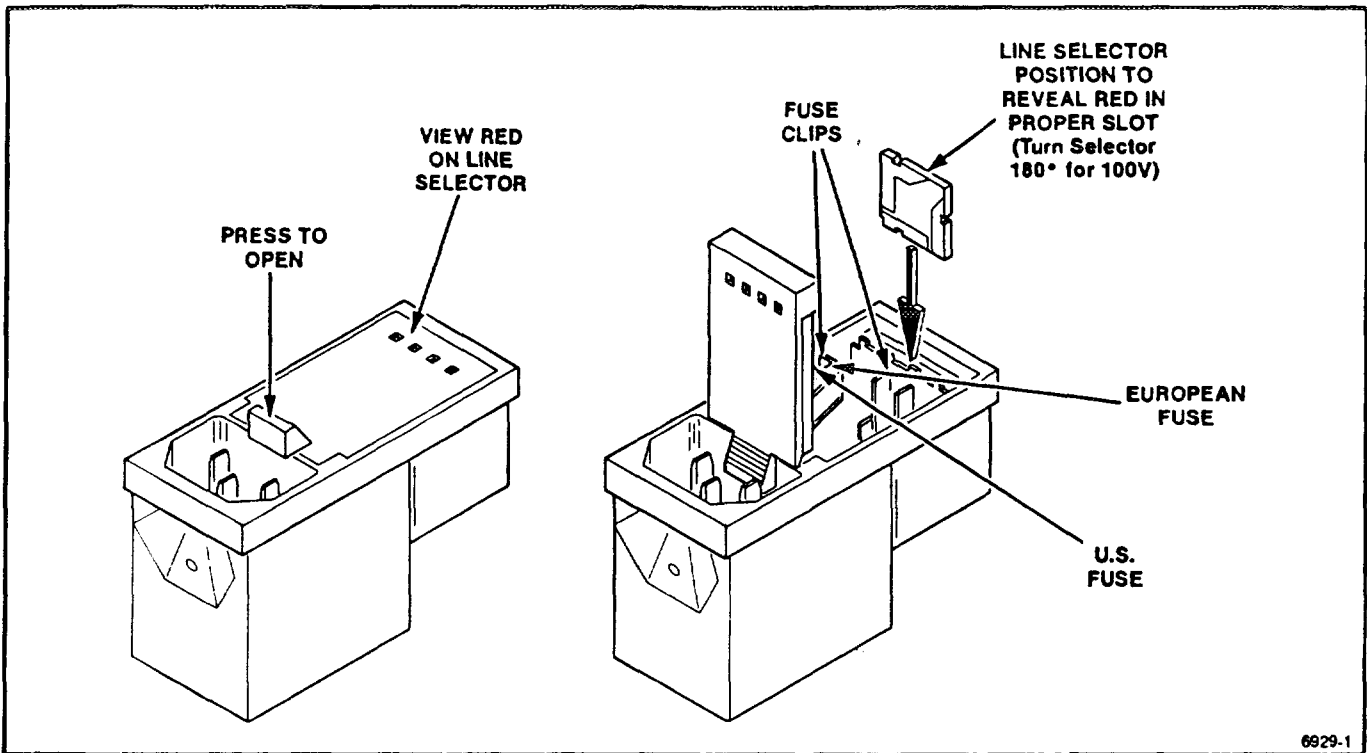

Fig. 2-1. Line Voltage Selection and Main Fuse Replacement.
2. See Fig. 2-1. To check or replace the Main Power Fuse, press downward on the tab located on the Line Voltage Selector just above the power cord receptacle. The door will open, and the fuse can be inspected or replaced.
If the displayed voltage selection is incorrect or the fuse needs replacement, perform the following procedure. Refer to Fig. 2-1. (The voltage is indicated by the red-marked window.)
2. See Fig. 2-1. Press downward on the tab located on the Line Voltage Selector just above the power cord receptacle. This opens the selector door.